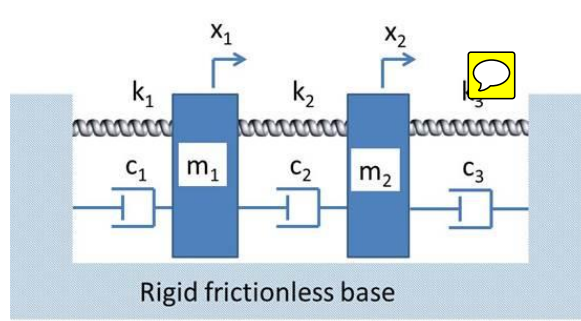

Figure 1. A schematic spring-mass dashpot system.
Consider the shown spring-mass dashpot mechanical system (MS) illustrated by Figure 1. It required to simulate the behavior of this system by building an equivalent electrical system (ES) using electrical analogy.